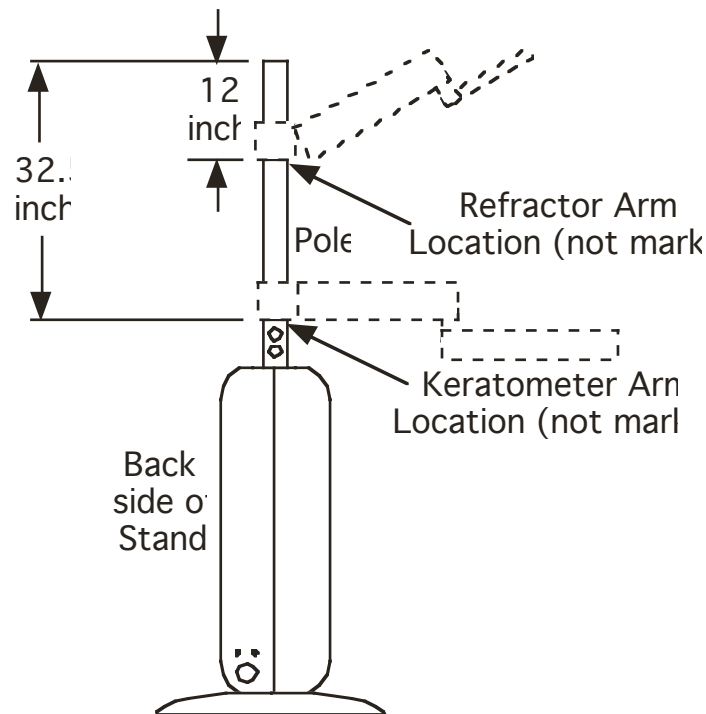

Figure 3.2: Instrument arm mounting locations
and into position. See Figure 3.2 for the suggested optimum mounting location. Note-The Topcon OMB-1 plug kit may be required to connect the instrument power cord the power cord supplied with the arm.
- 3.2.6 Set the refractor arm to the proper height. See Figure 3.2 for the suggested optimum mounting location. The arm maybe moved to accommodate user comfort by loosening the set screws, moving the arm to the desired position, then re-tightening the set screws securely.